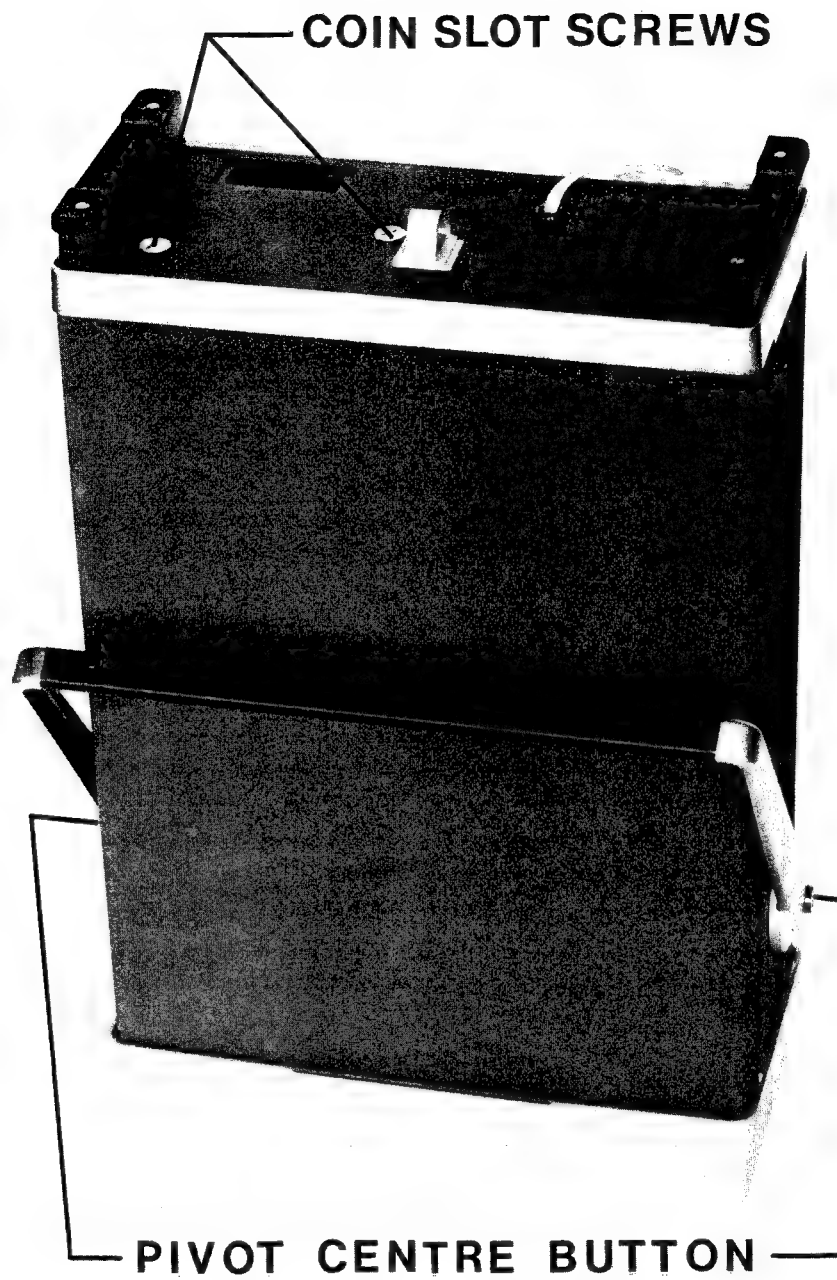

Fig. 3.2. Removing the instrument covers and the carrying handle
- hinge the carrying handle clear of the front cover; to this end, push both pivot centre buttons A (Fig. 3.2.).